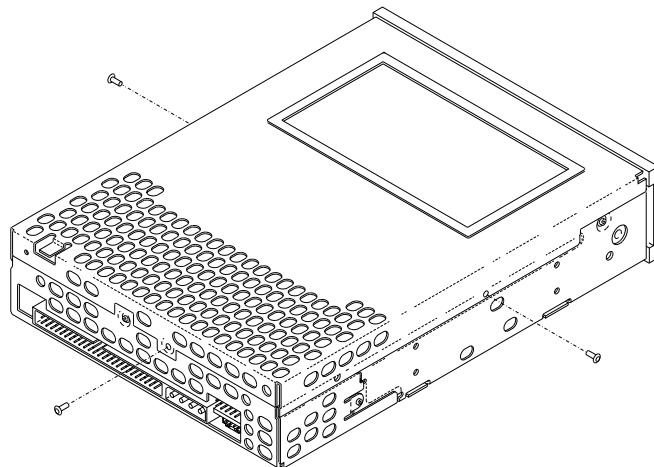

Figure 1 Removing the top cover
1. Remove the two side screws and one rear screw that attach the top cover to the tape drive (see Figure 1).